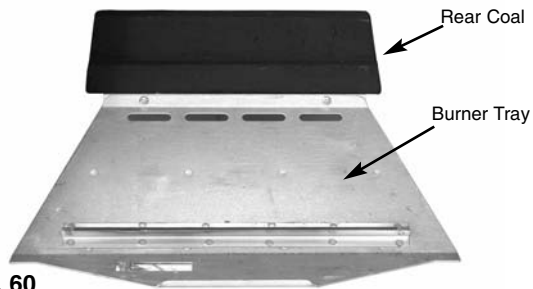

Fig. 60
1. Place the rear coal on the rear coal retainer ledge in a central position, ensuring the step portion is facing the front (Fig. 60).